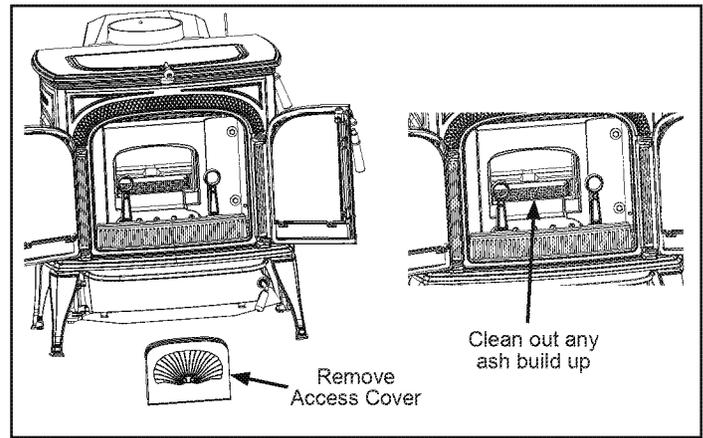

Figure 2.16 - Inspect and clean out ash accumulation behind the combustion system.
- Inspect for and remove ash build-up behind the combustion package. This should be done in conjunction with annual cleaning of the chimney connector. Inspect the passage behind the combustion package (a mirror will be helpful) and vacuum away ash using a flexible vacuum hose inserted in the passage. (Figure 2.16)